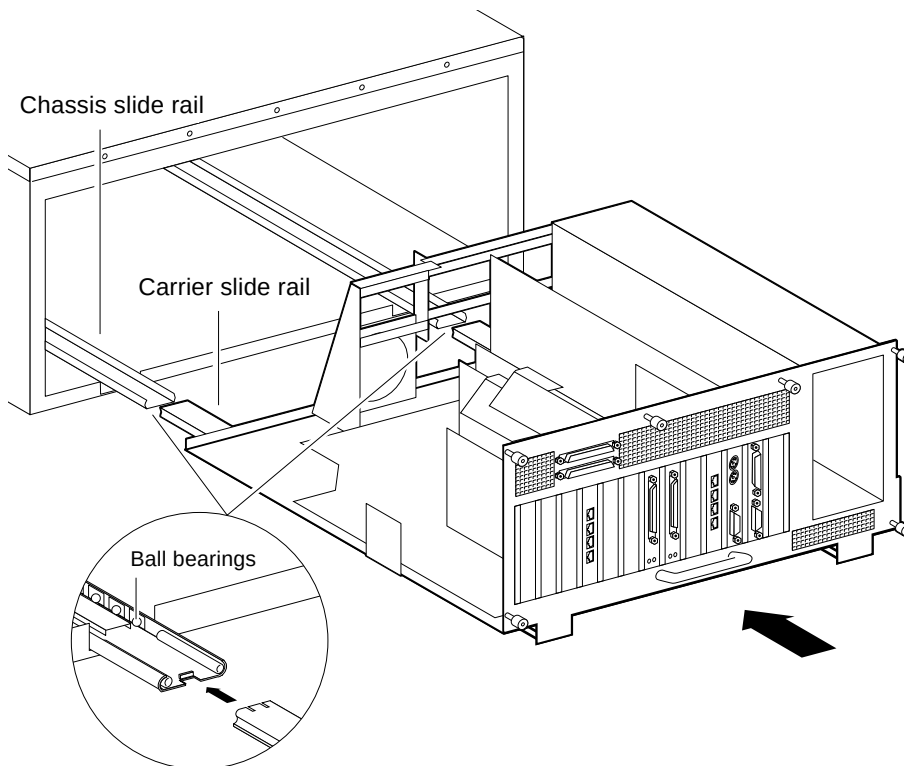

Figure B-5. Inserting the system backplane carrier slide rails
1. If you removed the carrier, insert the carrier slide rails evenly and slowly into the cabinet slide rails using both hands to support the carrier (see Figure B-5). There should be no resistance.